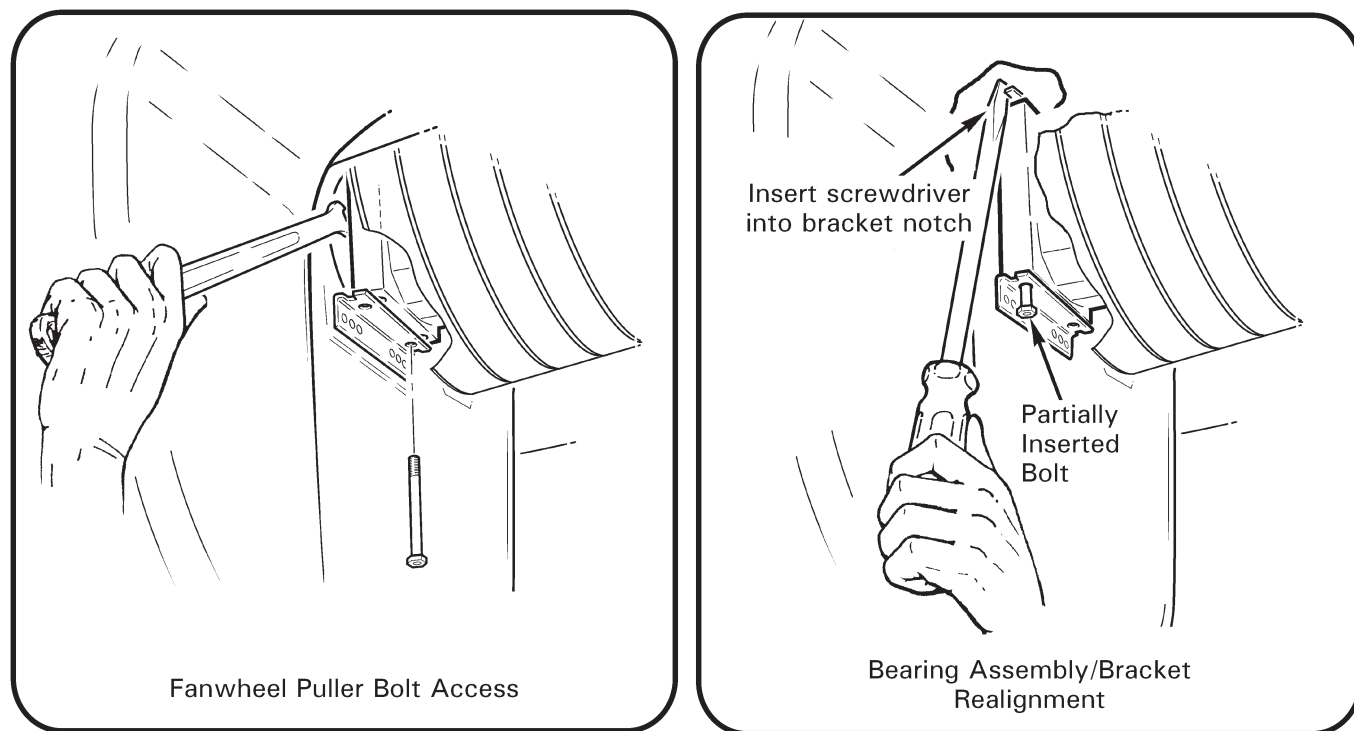

FIGURE 6-3 FANWHEEL HUB BOLT ACCESS
8. Install MT092-3 spacers directly on each of 6 long B660-1 bolts (if installed; nuts remain in place). Alternately, use a half-inch open-end wrench to hold fanwheel hub bolt heads and remove 6 of 8 nuts & washers (see Figure 6-3) and replace nuts with MT092-3 spacers.